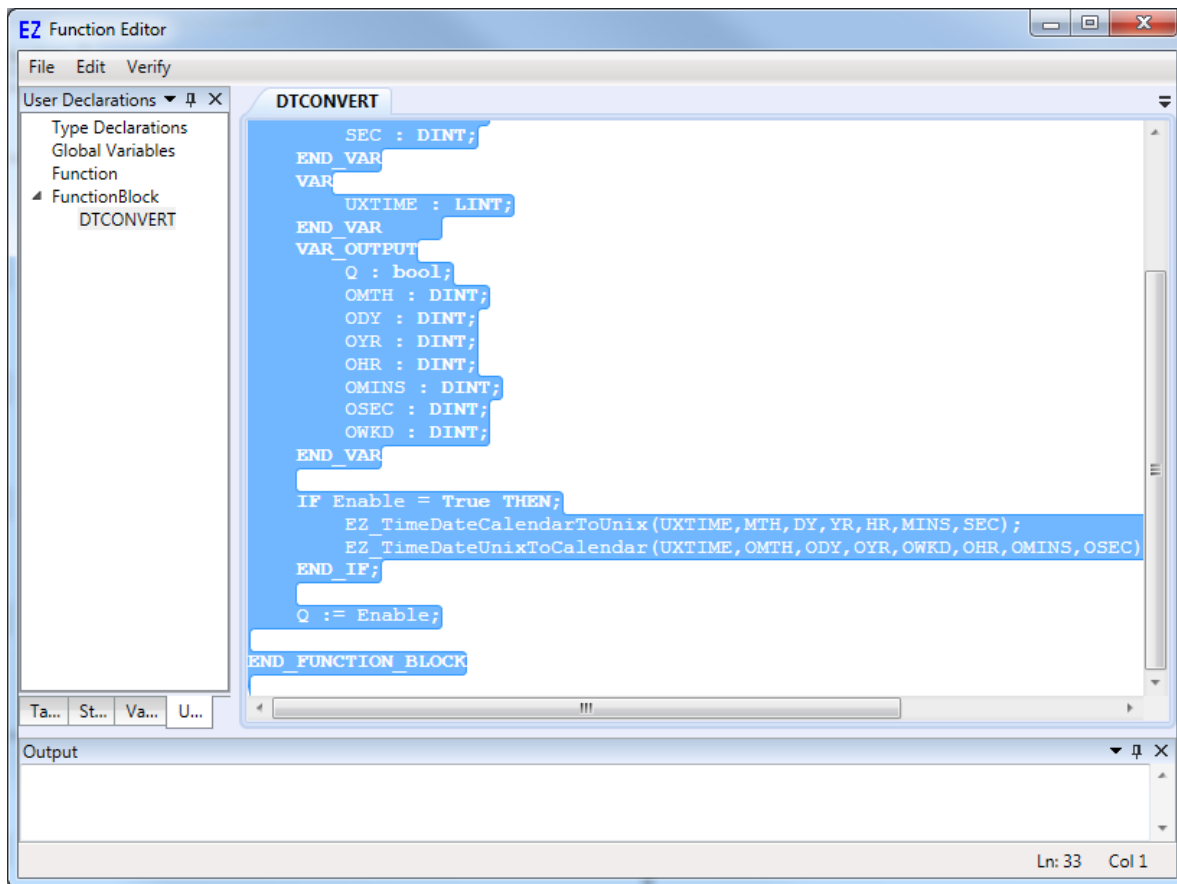

Figure 26-23
4. Double-click the selected function / function block to open the function / function block source code. In the source code window, select all (highlight) the text in the window. Verify all the text is selected (including text that is below the current viewable window without scrolling). Refer to Figure 26-23.